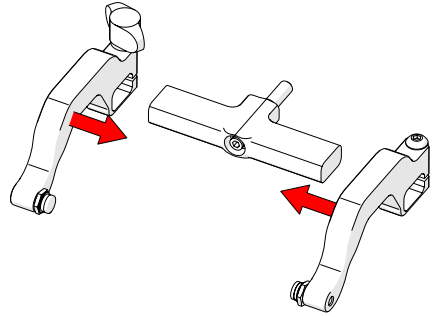

Fig. 124 - Place arms back onto yoke
6. Place the probe holder arms on the yoke and tighten the arm clamp screw and probe holder adjustment knob (Fig. 124).